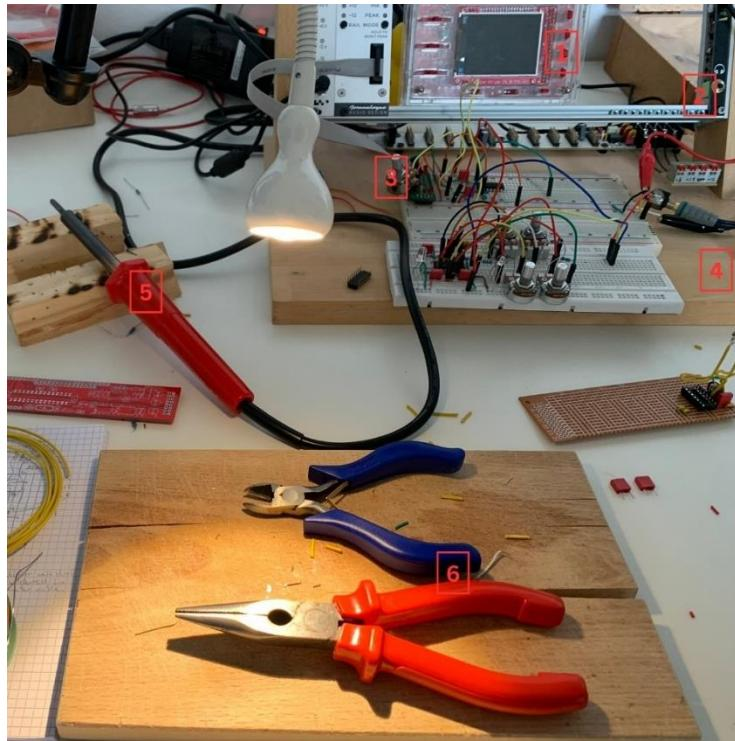

Figure 3.1: Tools I used while prototyping. Nikolaj Veljkovic [created 04 09 2024]
In Figure 3.1, one can see the tools I used while prototyping. The red box (1) is a digital oscilloscope. It displays the time on the x-axis and voltage level on the y-axis. The waveshapes in Figure 2.12 are displayed using the same method. It was incredibly useful in helping me understand how the oscillator behaves when I tweak or exchange certain components. The metal frame (2) is used to combine different modules. I only used it for the power supply, as my supervisor built a special power supply (3) which could be stuck directly onto the breadboard. On the wooden board (4) there is the prototype of the synthesizer, wired onto a breadboard. The soldering iron (5) is what I used later when soldering the board together. Number 6 are pliers, which were extremely helpful when I had to cut wires or pull off the isolation from the wire. In the upper left part of the picture, one can see a reading lamp. I transformed my microphone boom arm into a highly adjustable desk lamp. This was very useful when working in the dark or having to see something very tiny.